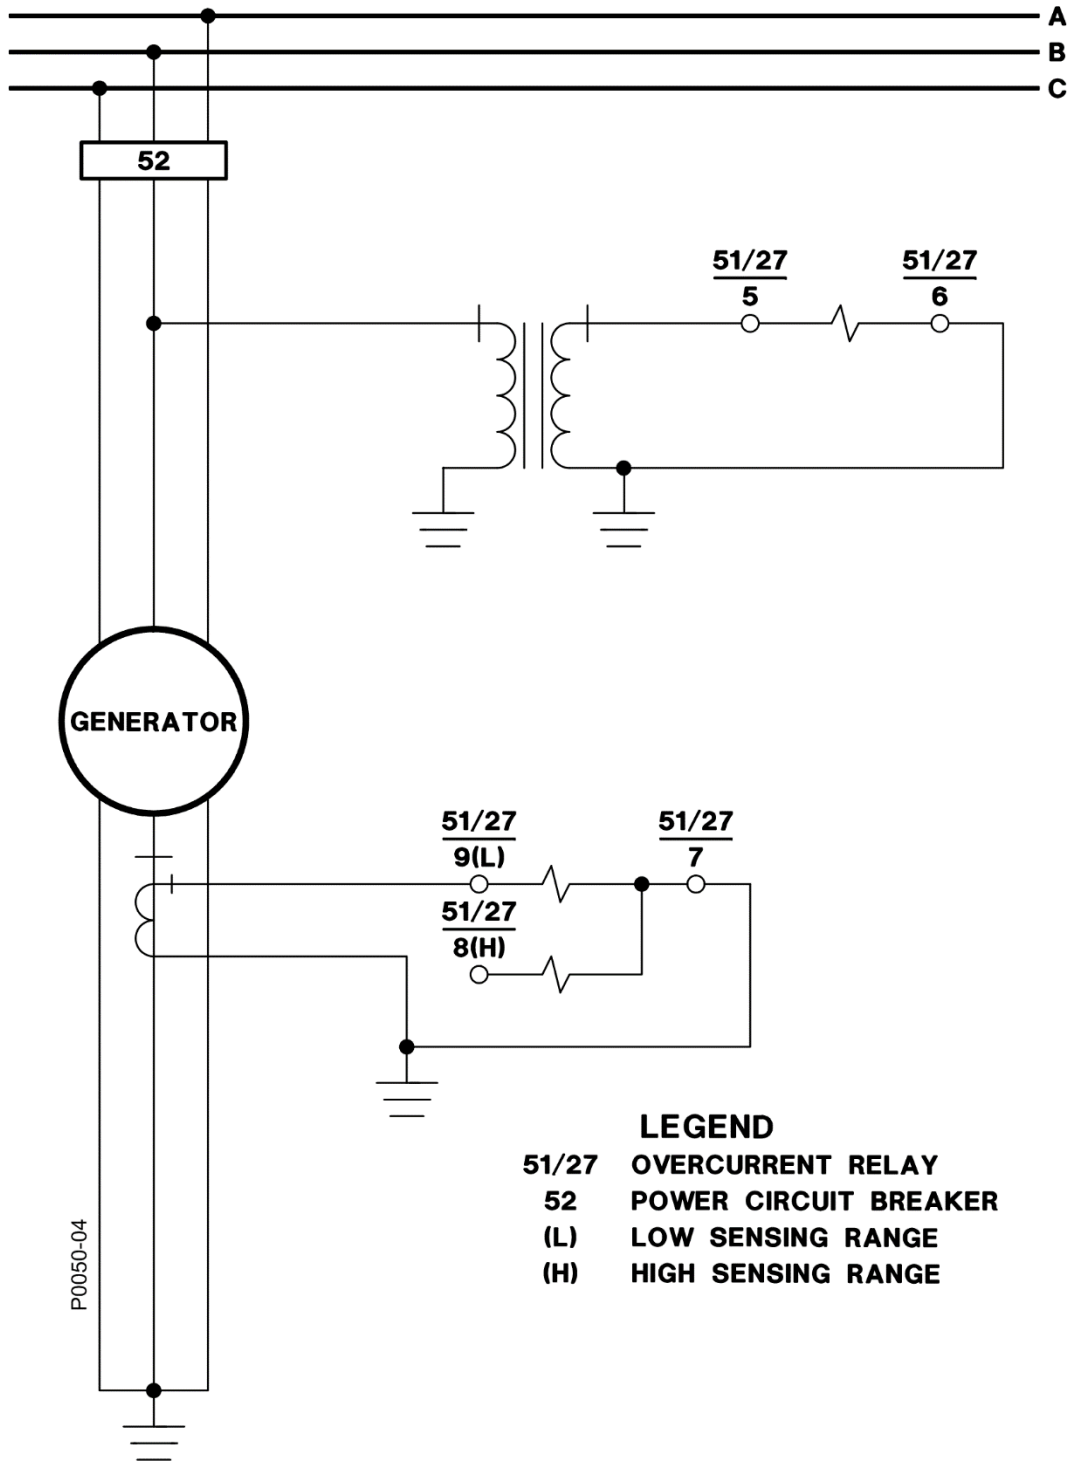

Figure 4-14. Typical Sensing External Connections, Sensing Input Type L
- Figure 4-14: Typical Sensing External Connections, Sensing Input Type L